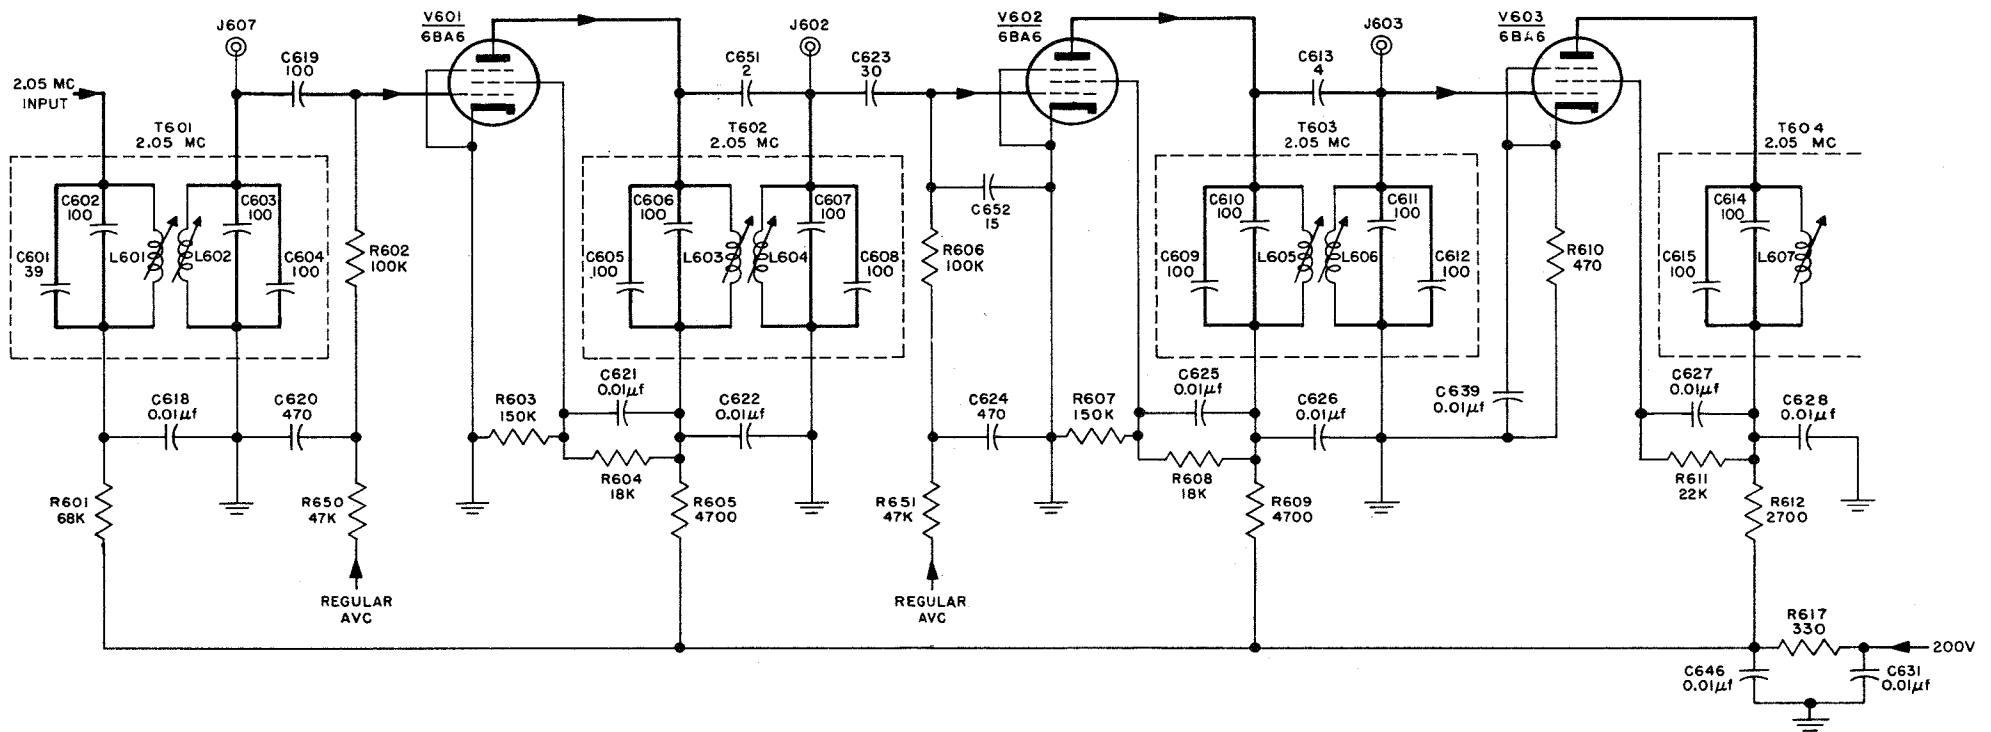

Figure 4-13. Radio Receiver R-278B/GR, Multi-channel Receiver Section, Third I-F Amplifier Stage, Simplified Schematic Diagram
2. **THIRD I-F AMPLIFIER STAGE.**—A simplified schematic diagram of the third i-f amplifier stage is shown in figure 4-13. The third i-f signal is amplified in the three-stage third i-f amplifier consisting of V601, V602, V603, and four interstage i-f transformers tuned to 2.05 mc. The first i-f transformer is overcoupled and the last three are undercoupled. This is done to give the desired band pass characteristics. The first two stages, employing V601 and V602 are avc controlled. The signal is then coupled to output transformer T604 whose secondary is in the audio and avc detector circuits.